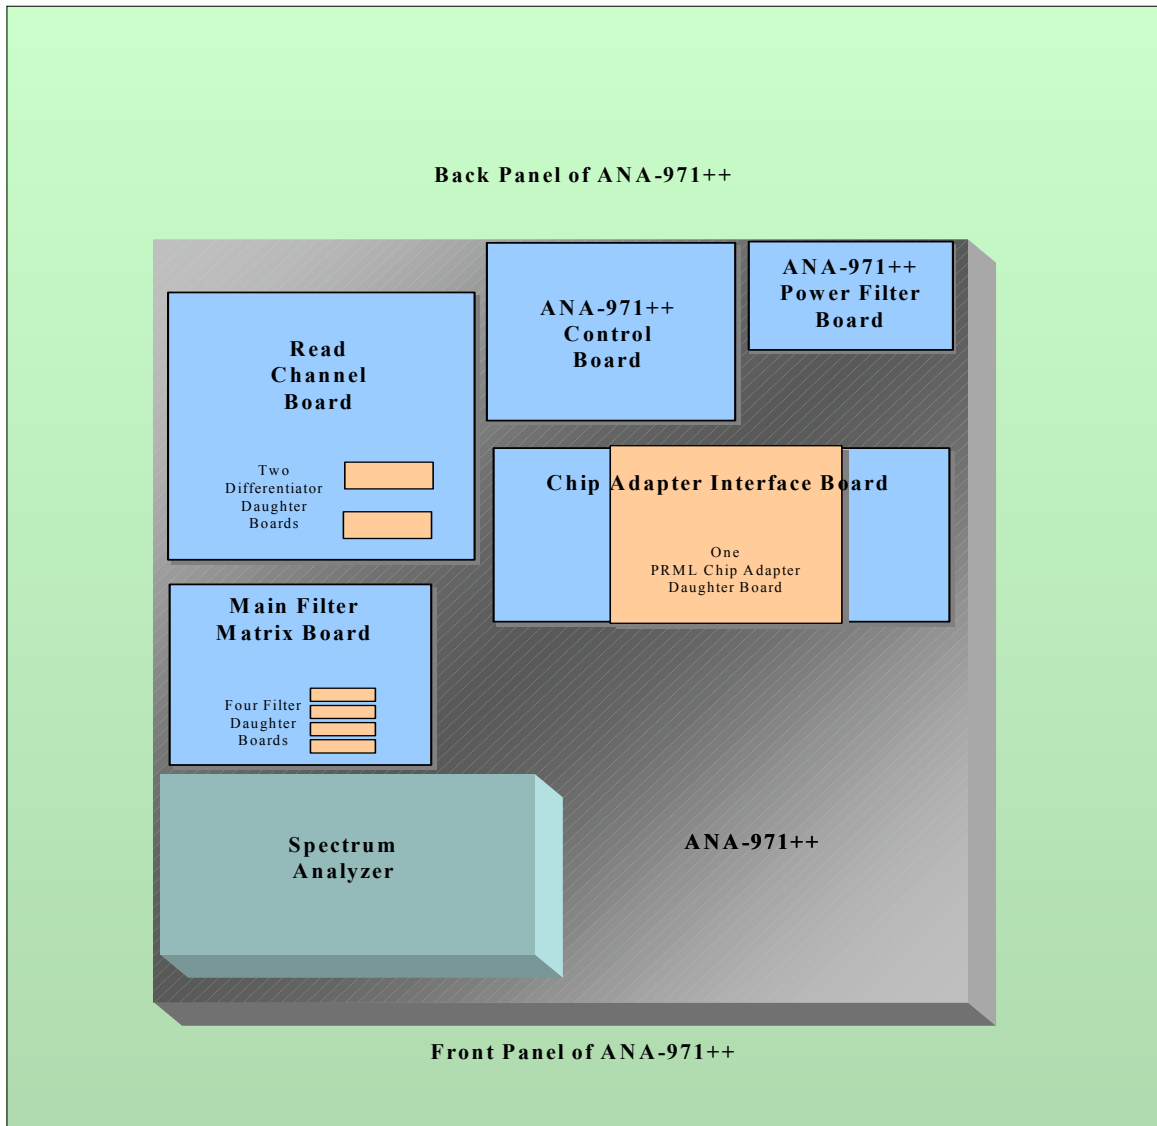
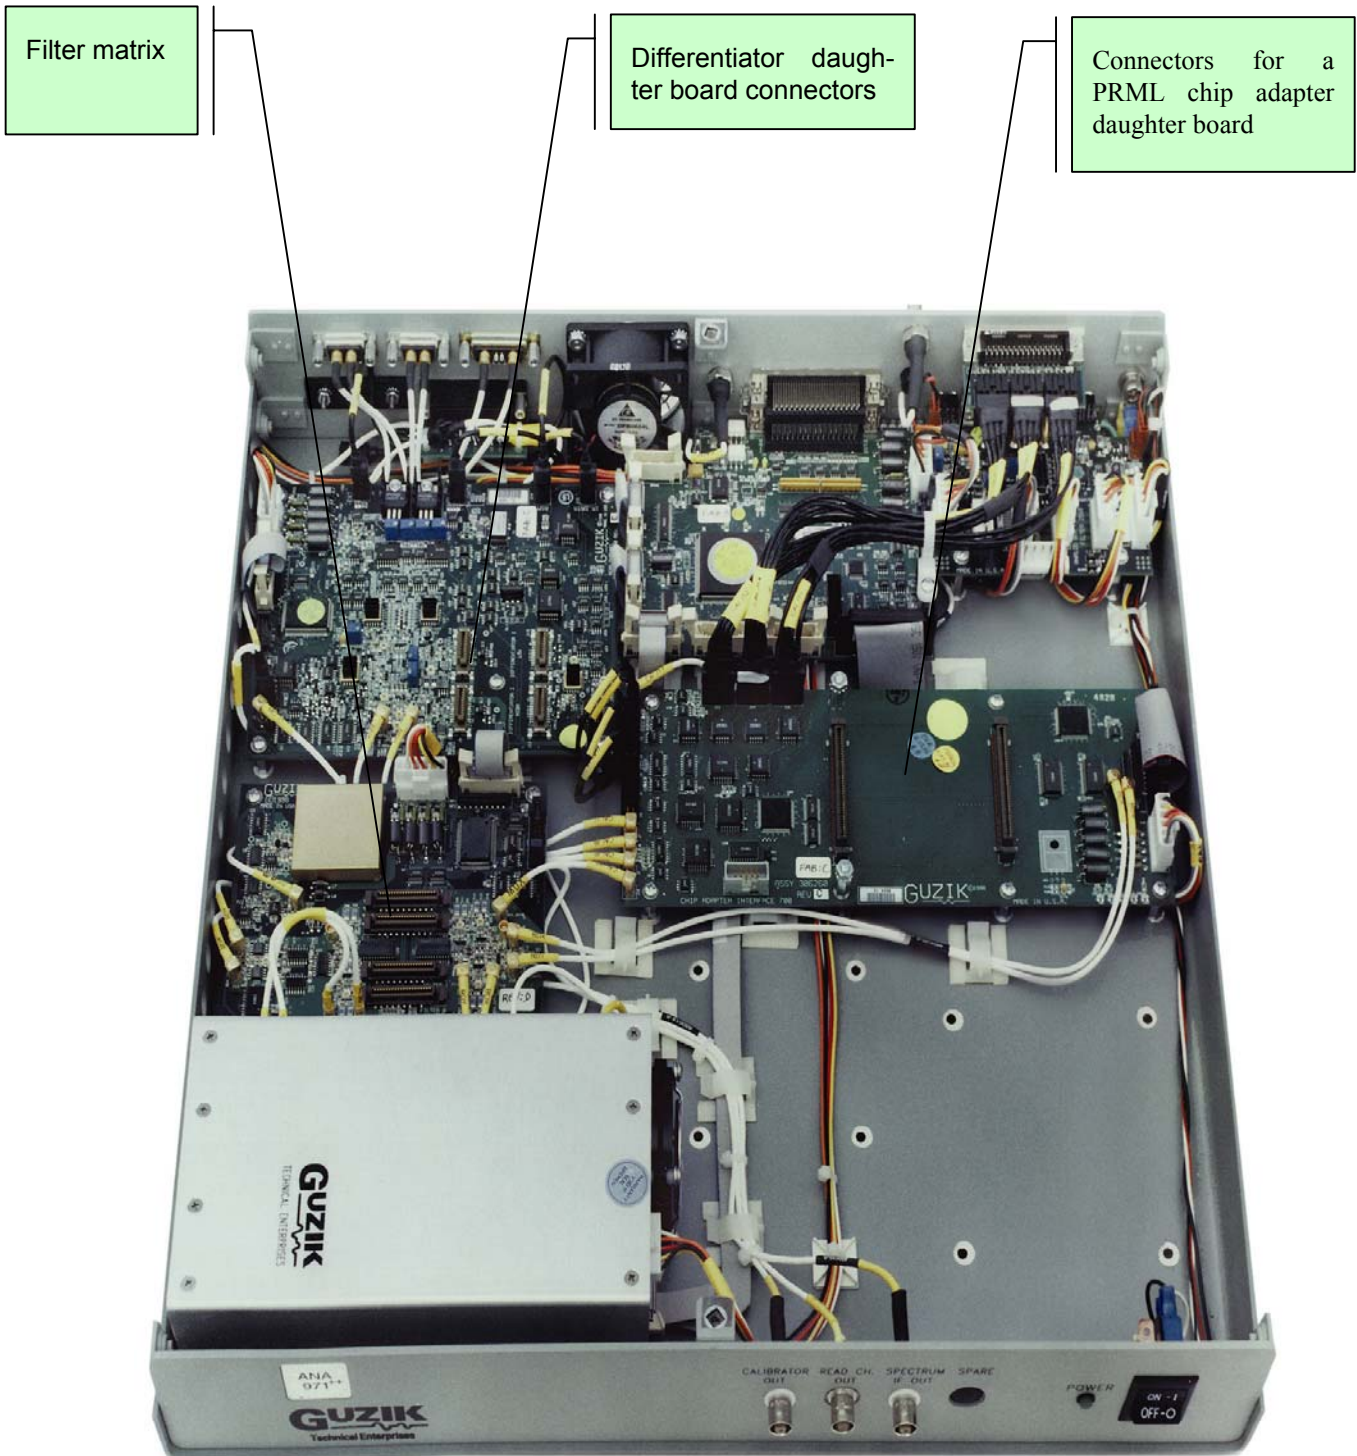

Figure 9 Layout Diagram of the ANA-971++
Figure 10 Layout Photograph of the ANA-971++
Daughter boards are installed into the ANA-971++. Figure 9 shows an inside view of the ANA-971++ from above, with the front panel at the bottom. See Figure 10 for a photograph of the same view.
All PRML chip adapter boards are installed on top of the PRML chip adapter interface (CAI) board. This board is located to the right front of the ANA-971++ (see Figure 9)The PRML CAI board has two open female connectors that match the male connectors on the underside of the PRML chip adapter daughter board. The PRML chip adapter daughter board and PRML CAI board connectors are keyed, so that there is only one orientation where mating is successful.
Refer to Figure 9 for the layout of the ANA-971++. All filter boards are installed on top of the main filter matrix (MFM) board. This board is located to the left front of the ANA-971++. The board has four open female connectors that match the male connectors on the side of the filter board. The filter and MFM board connectors are keyed, so that there is only one orientation where mating is successful.
The filter positions are numbered **0 to 3** as shown in Figure 9.
Refer to Figure 9 for the layout of the ANA-971++. All differentiator boards are installed on top of the read channel (RC) board. This board is located to the left rear of the ANA-971++. The board has two open female connectors that match the male connectors on the side of the differentiator board. The differentiator and RC board connectors are keyed, so that there is only one orientation where mating is successful.